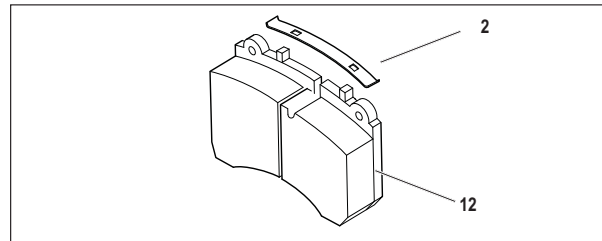

FIGURE 39 - PAD RETAINING SPRING INSTALLATION
- 5.2.15 Install the pad retaining springs(2) onto the brake pads(12) by inserting one end of the spring onto the lug at the top of the brake pad (See Figure 39). Carefully apply enough force to permit the second end lug to fully engage, taking care to keep fingers etc. away from the spring as it seats.